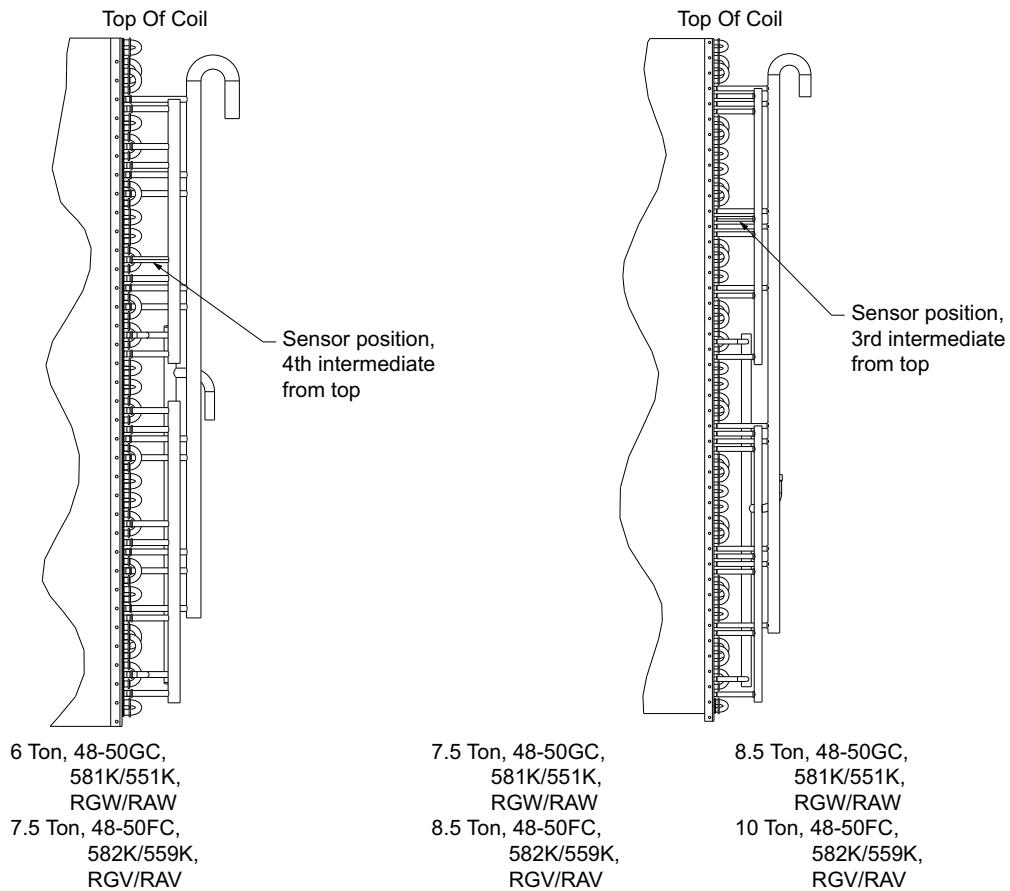

Fig. 7 — Cabinet A — Sensor Locations for AC Units
- 14. Install the controller’s sensor on the outdoor condenser coil. (See Fig. 7 and 8.) When installing the sensor, use the included 2 in. insulation tape and wire tie to secure the sensor to the coil header.